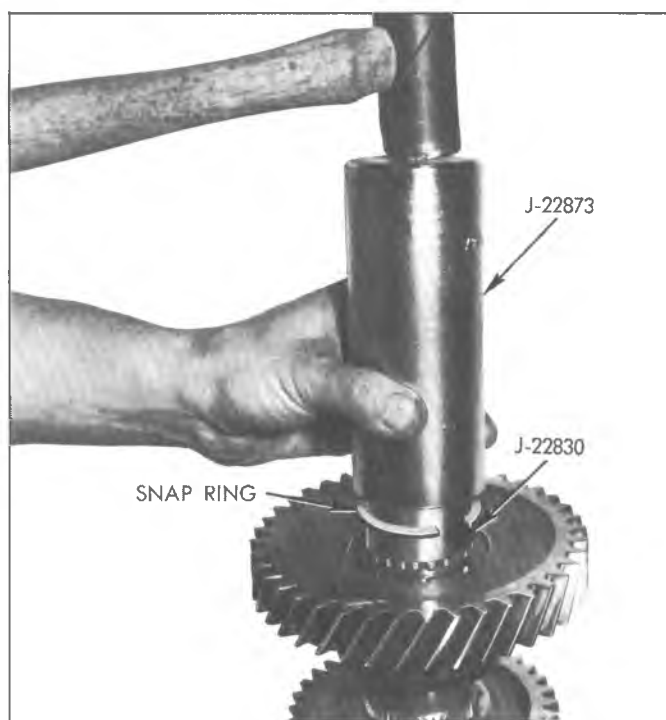

Fig. 21Q-Installing Counter Gear Snap Ring
3. Install new clutch countergear rear retaining ring using Tool J- 22830, J-22873 and snap ring pliers as follows: Install Tool J-22830 on end of shaft and position snap ring on Tool (fig. 21Q). Using Tool J-22873, push down on snap ring until it engages groove on shaft. Using snap ring pliers, carefully expand ring until it just slides onto splines, then push ring down shaft until it engages groove on shaft.
5. Install clutch countergear thrust washer and front retaining ring using Tool J-22830 and J-22873 (fig. 21Q).